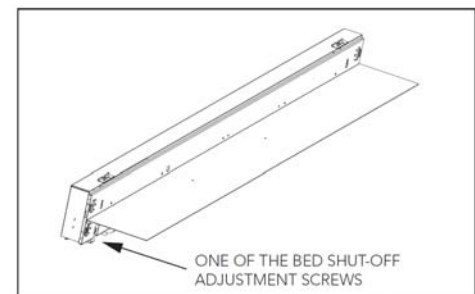

Figure 8
4. Pick up the Housing. Orient the Housing with the mounting screw holes facing upward and the switch oriented downward. (See Figure 8)
3. Remove the bottom lens from the Housing and remove the lamps from the lower lamp compartment. Locate the two Bed Shut-off Switch adjustment screws at either end of the lower lamp compartment. (See Figure 8)